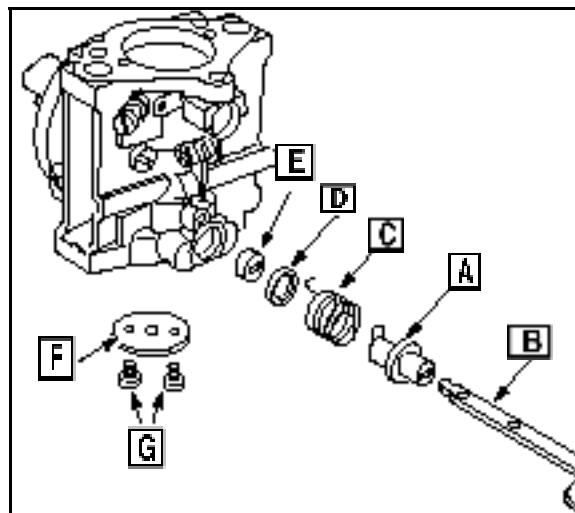

Fig. 105
1. Assemble retainer ([A] Fig. 105) on choke shaft ([B]).
shaft. Secure with two screws ([G] Fig. 105).